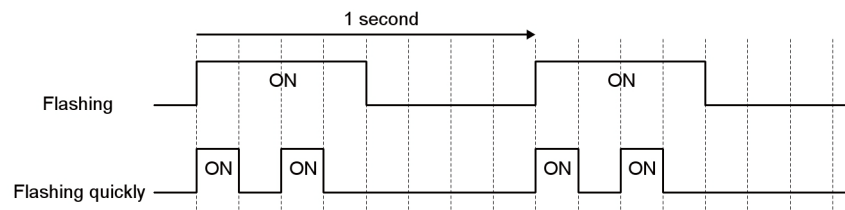

Figure 3: RUN LED Status and Meaning
*1 Refer to Figure 3 for the difference between flashing and flashing quickly regarding the RUN indicator.